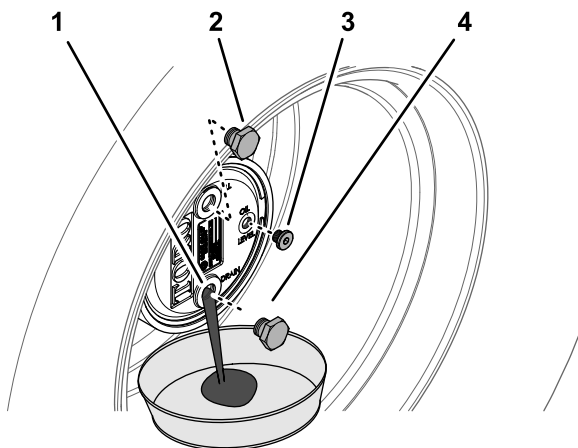

Figure 82
2. Remove the fill plug at the 12 o'clock position and the check plug at the 3 o'clock position (Figure 82).
3. Place a drain pan under the planetary hub, remove the drain plug at the 6 o'clock position, and allow the oil to fully drain (Figure 82).
5. Install the drain plug into the drain hole of the planetary housing (Figure 82).